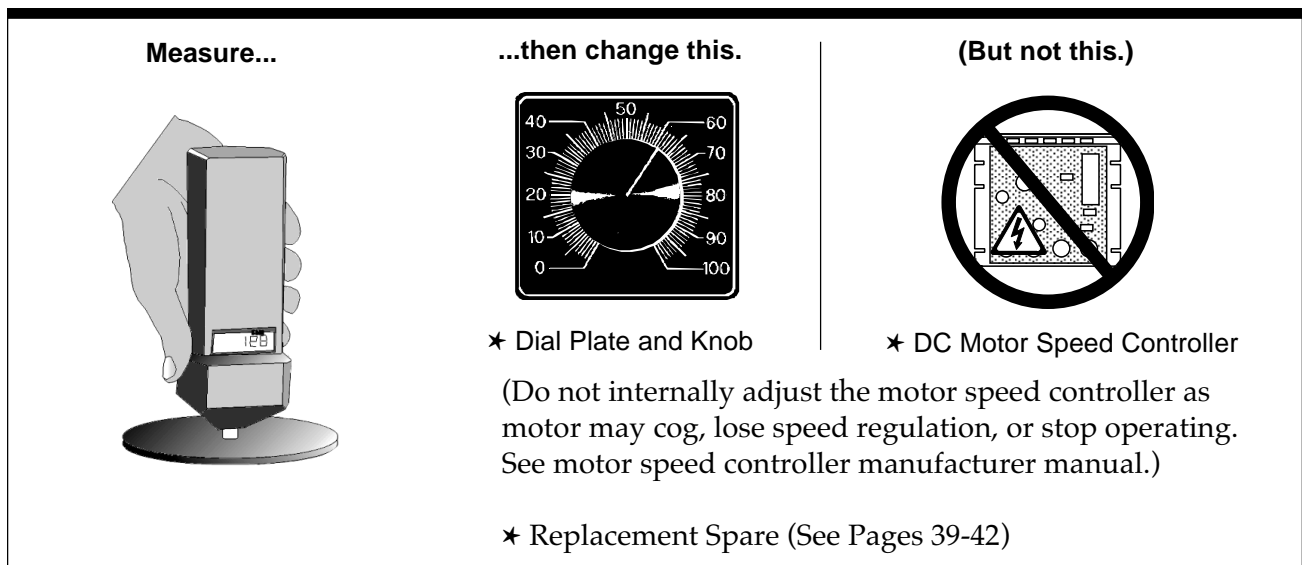

Figure 3-1. Measuring and Changing Bowl Speed
▶ You will need a hand-held tachometer (analog or digital) with a surface speed wheel indicator (see Figure 3-1).